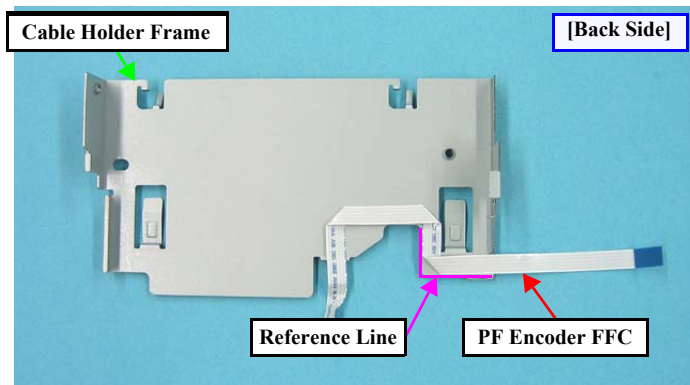

Figure 1-76. Removing the PF Encoder FFC
- When installing the Cable Holder Frame, attach the PF Encoder FFC along with the reference line shown in Fig.1-76 \(p.47\).